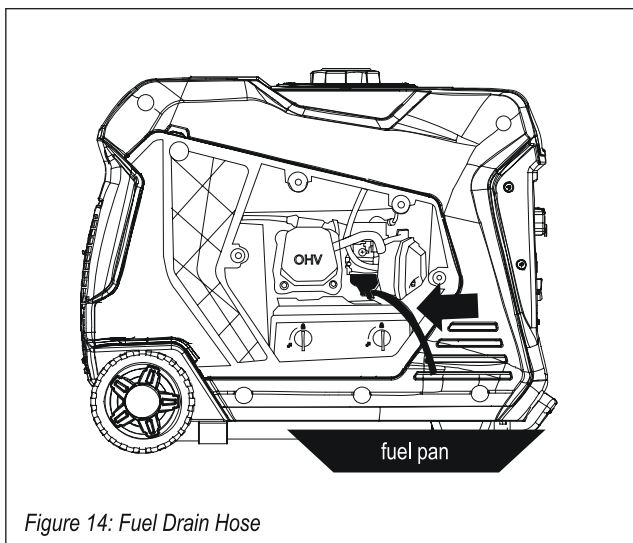

Figure 14: Fuel Drain Hose
2. Locate the clear plastic hose from the float that is extending towards the bottom of the generator, pull those hose outside the body and place a suitable container under it to catch the drained fuel (see Figure 14).